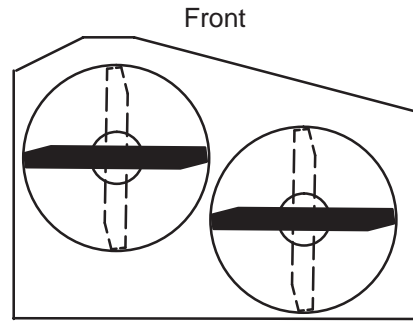

Figure 22
1. Rotate the blades until the ends face forward and backward (Fig. 22).